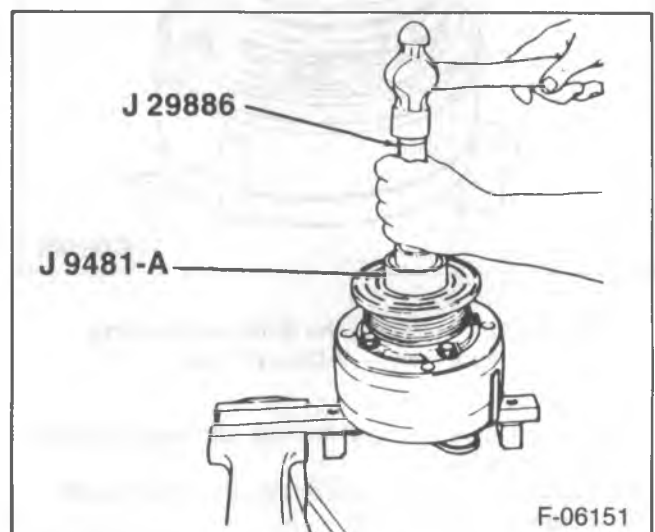

Figure 32—Pulley Rotor and Bearing Installation
5. Pulley rotor and bearing to the front head using J 9481-A and J 29886 (figure 32).